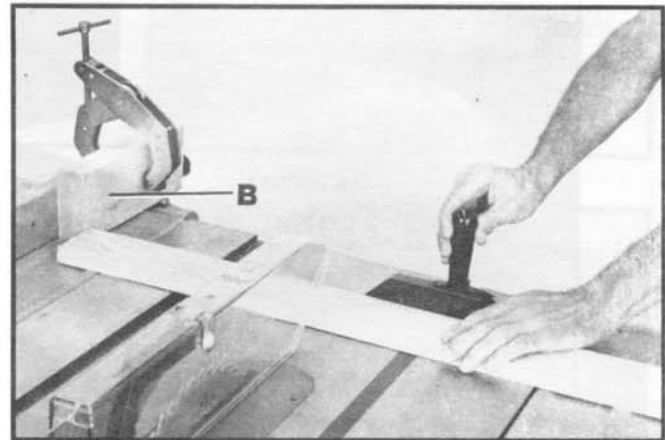

Fig. 58
When cross-cutting a number of pieces to the same length, a block of wood (B) can be clamped to the fence and used as a cut-off gage as shown in Fig. 58. It is important that this block of wood always be positioned in front of the saw blade as shown. Once the cut-off length is determined, secure the fence and use the miter gage to feed the work into the cut.